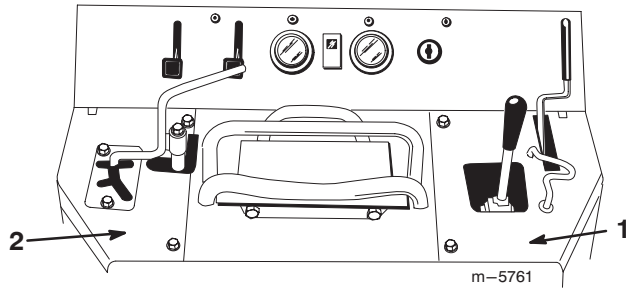

Figure 8
1. Remove the left and right control panel covers (Fig. 8).